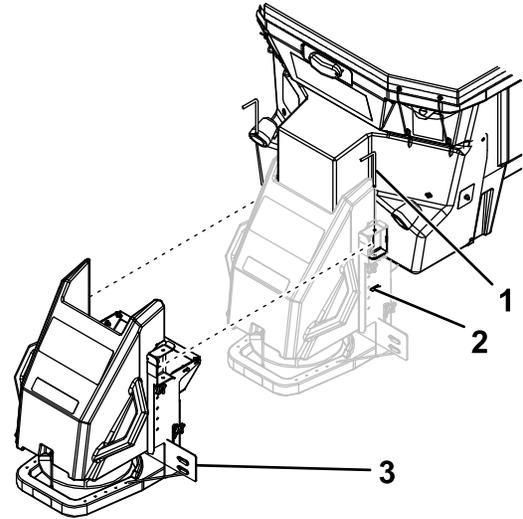

Figure 21
3. Remove the 2 latch and cotter pins securing the spinner assembly to the hopper (Figure 21).